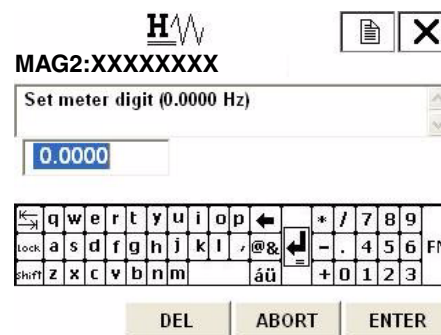

Figure 124.
- A numerical value input display (Figure 124) then appears. Measure the pulse frequency from the transmitter and enter the frequency by the Hz into the device. Once the input has been completed, press F4 (ENTER). The transmitter starts adjusting to 90 Hz automatically, and returns back to the display as shown in Figure 123. Verify that the pulse output is 90 Hz, and terminate the adjustment.